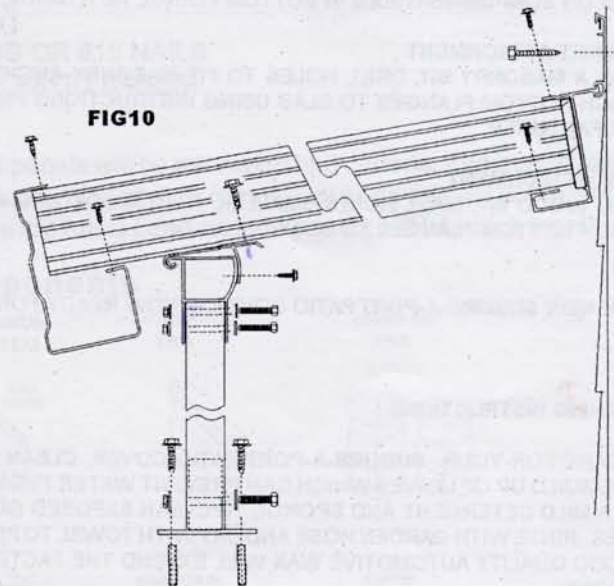

FIG 10
STEP 9 - PREPARATION OF COLUMNS/POSTS - FIGURE 10